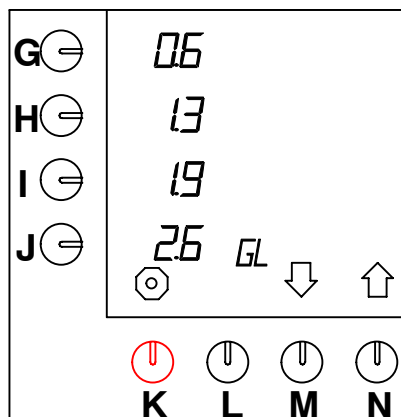

Fig. 39 Adjusting pre-programmed selection keys for gallons
- Press selection key (N.)↑ until fig.39 appears on the display.